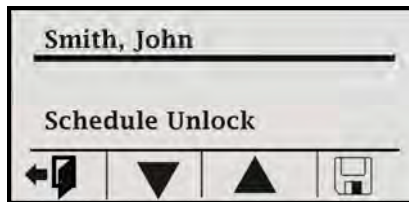

Figure 27: Employee Hours at Terminal
- Step 3.** A user with supervisor rights must swipe his/her badge magnetic card to unlock the terminal and the screen will change to the following (see **Figure 27**).